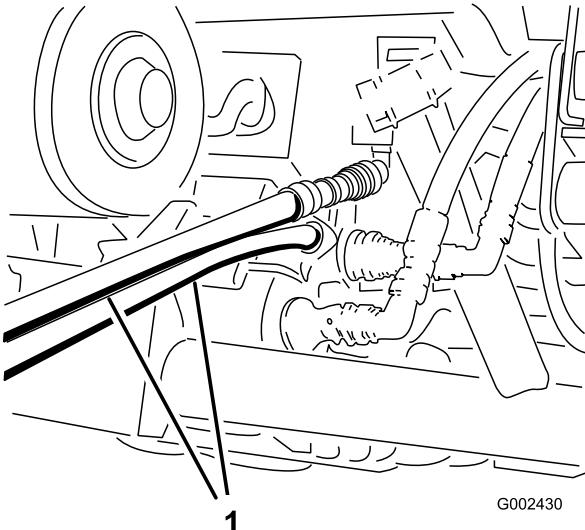

Figure 67
5. On the other machine, connect the two hoses to the coupler still in the coupler bracket (connect the top hose to the top coupler and the bottom hose to the bottom coupler) (Figure 67).